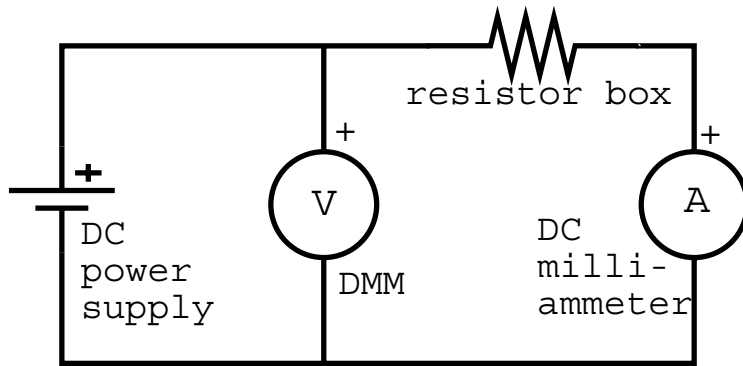

Figure 3: Circuit for evaluation of voltage-current characteristic
The characteristic voltage-current relationship of a given DC voltage source can be studied experimentally using the type of circuit shown in Figure 3. As the resistance of the resistor box
5. Add the DC milliammeter and resistor box to obtain the circuit shown in Figure 3.
1. Substitute the 1.5V battery for the DC power supply in your circuit (Fig. 3).
The experimental determination of the voltage-current characteristic of a power supply using the circuit in Figure 3 can give poor results. The DC milliammeter will measure only the current passing through it, whereas the actual current delivered by the DC power supply is the sum of this current and the current flowing through the voltmeter. Thus the characteristic will be correct only if no current flows through the voltmeter. This requires that it have an infinite resistance. Such a voltmeter is called an ideal voltmeter.